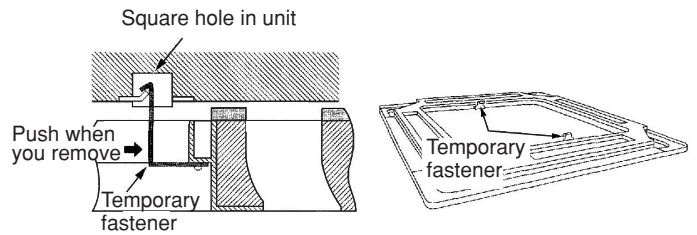
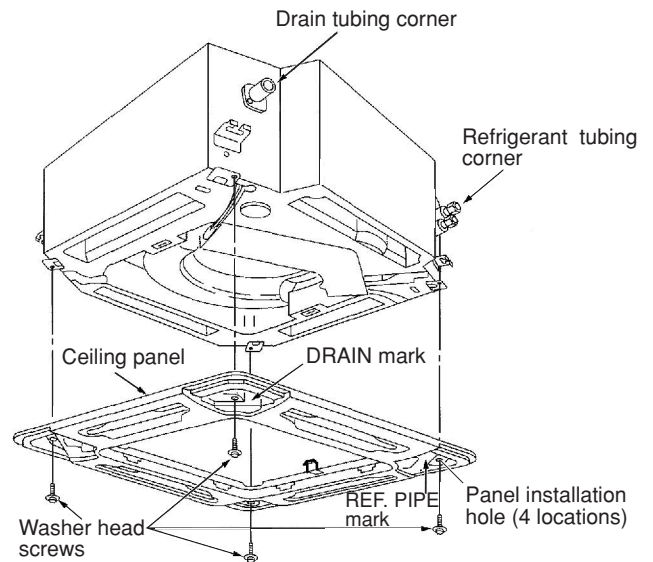
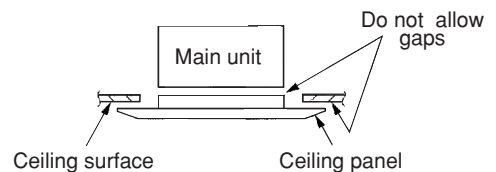

Fig. 9-15
Fig. 9-16
Fig. 9-17
- (1) Insert the temporary fasteners (stainless steel) on the inside of the ceiling panel into the square holes on the unit to temporarily fasten the ceiling panel in place. (Fig. 9-15)
- To remove the ceiling panel, support the ceiling panel while pressing the temporary fasteners toward the outside. (Fig. 9-15)
- (2) Align the panel installation holes and the unit screw holes.
- (3) Tighten the supplied washer head screws at the 4 panel installation locations so that the panel is attached tightly to the unit. (Fig. 9-16)
- (4) Check that the panel is attached tightly to the ceiling.
- At this time, make sure that there are no gaps between the unit and the ceiling panel, or between the ceiling panel and the ceiling surface. (Fig. 9-17)